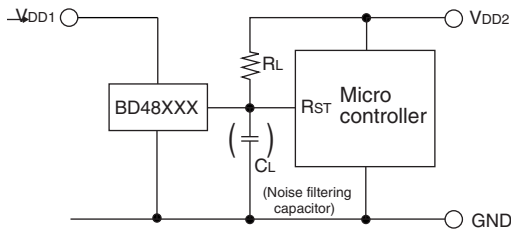

Fig.10 Open collector output type
- When the power supply of microcontroller (V_{DD2}) and power supply for the reset detection (V_{DD1}) is different. Provide R_L for the output of a product with open drain output (BD48XXG/FVE series) on the V_{DD2} side, as shown in Fig.10.